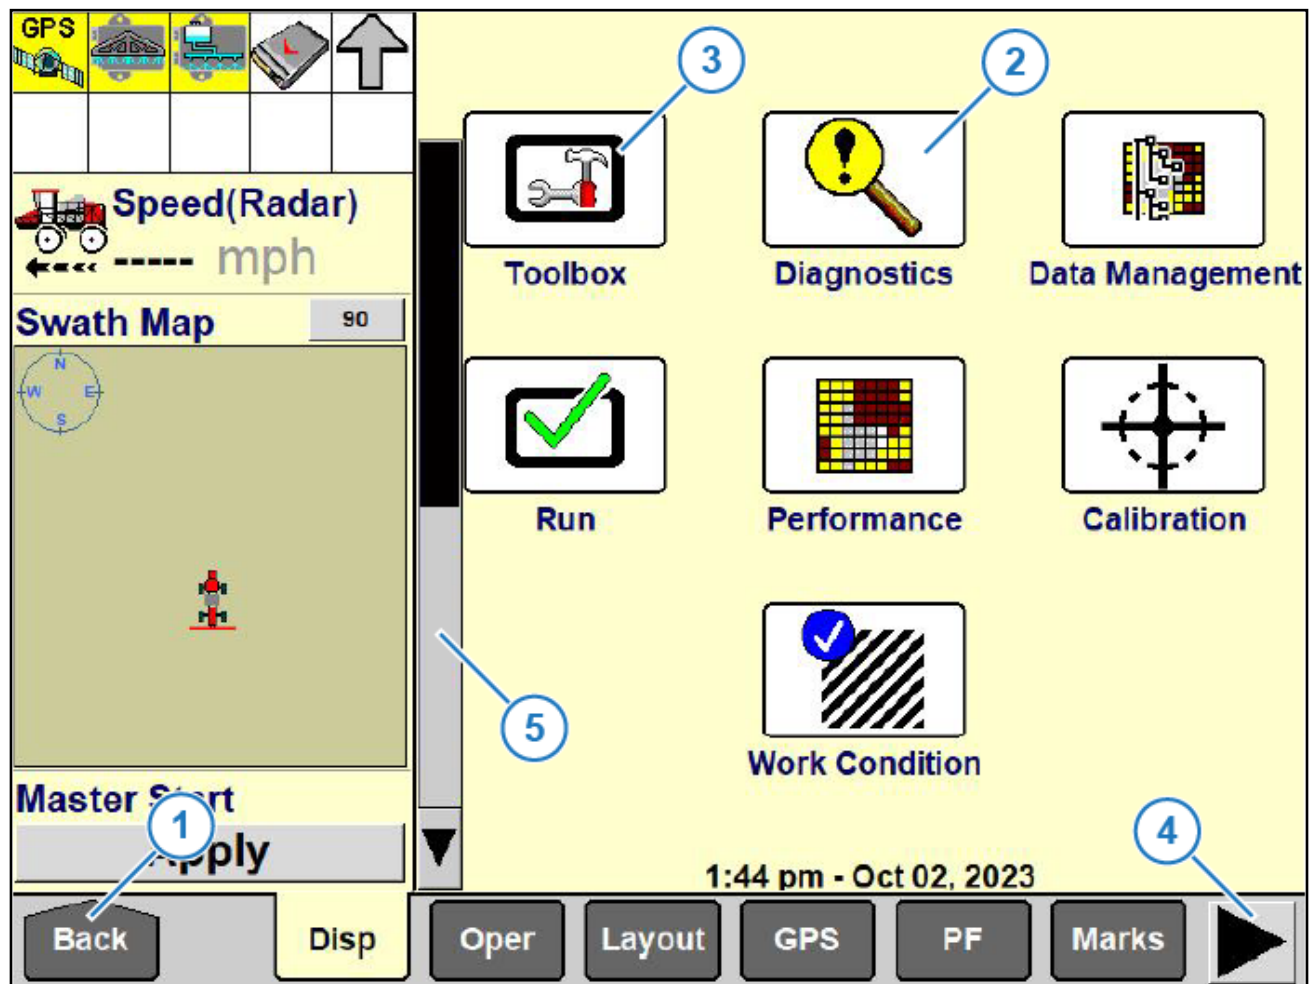

Figure 2: Pro 700 VT Screen
1. Tap the **Back** icon (Figure 2, Item 1) to display the Home screen on the Pro 700 if necessary.
2. Tap the **Diagnostics** icon (Figure 2, Item 2) and select the **Version** tab in the lower ribbon to display the VT software version information.
3. Tap the **Back** icon to return to the home screen and then tap the **Toolbox** Icon (Figure 2, Item 3).
5. Select **TC-Setup** from the lower ribbon, use the scroll icon (Figure 2, Item 4) to display more tabs if necessary.
6. Confirm the following settings in the TC Setup Screen, use the scroll bar (Figure 2, Item 5) to display more settings if necessary: